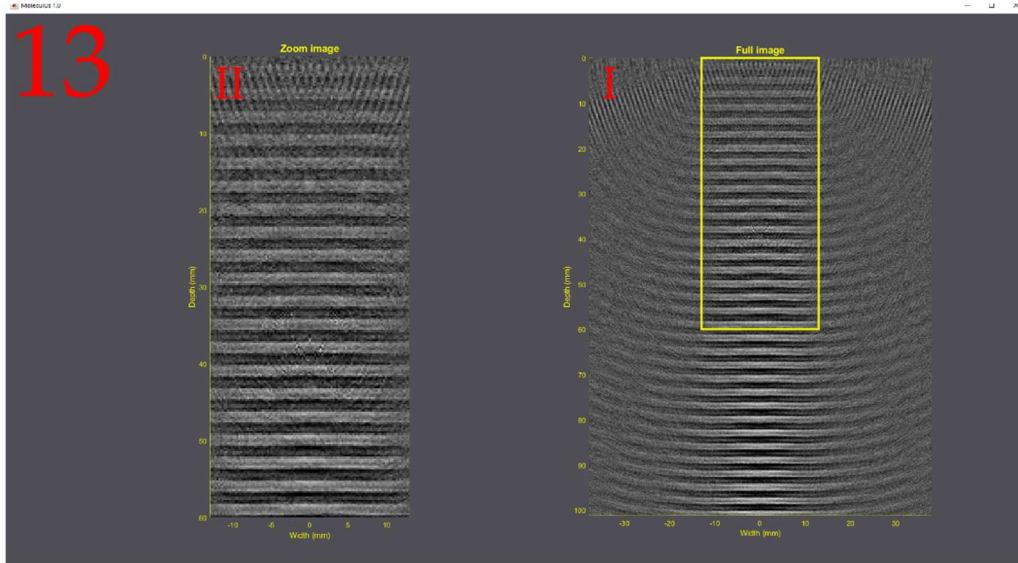

Figure 34: Real-time reconstruction viewer. The Full image (I) and Zoom image (II), area of the yellow rectangle on the Full image, are displayed.
Upon starting the MolecuS.exe application, two windows will appear: MolecuS control (Figure 33) and the reconstruction viewer (Figure 34). The MolecuS main control window (Figure 33) has multiple sections and is detailed below, with the reconstruction viewer's description at the end:
13. Reconstruction viewer (Figure 34). Visualizes the real-time reconstruction of PA signals in two figures. One set as the Full image range of the transducer and the other as a Zoom image determined by the user.